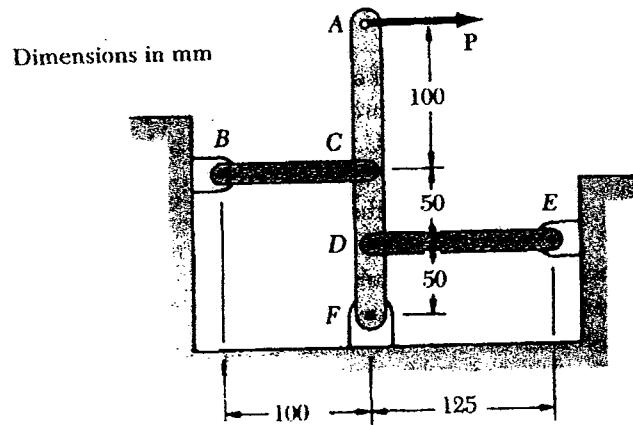

Figure 4
4. Link BC and DE are both made of steel [$E = 200$ GPa] and are 12 mm wide and 6 mm thick (Figure 4). Determine:
- (a) The force in each link when 2.5 kN force P is applied to the rigid member AF as shown, in Figure 4.